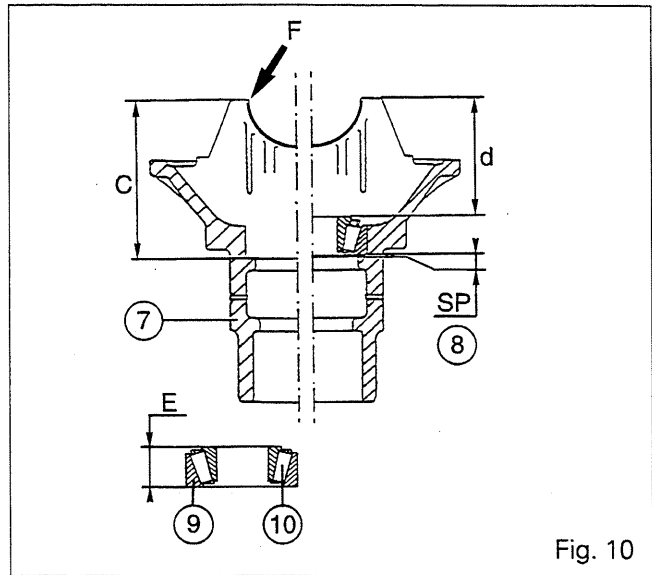

Fig. 10
38. Adjust the position of the drive pinion (Fig. 10). The thickness of shims required to position the drive pinion correctly is calculated using the formula: